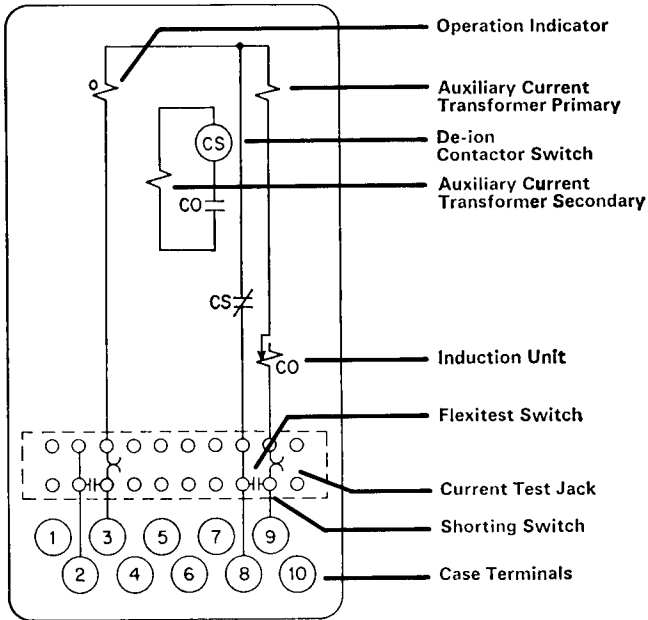

Fig. 10
As shown in figures 10 and 11, closing of the CO unit contacts energizes a De-ion[®] contactor switch (CS) whose contacts shunt the ac trip current through the breaker trip coil.
Burden of the auxiliary current transformer (figures 10 and 11) with 4 amperes applied is 4.6 volt-amperes with the CO contacts closed, and 5.7 volt-amperes with the contacts open.
Used in circuit opening type CO relays as shown schematically in figures 10 and 11. This scheme is applied where ac trip coils are used on the circuit breakers, energized by the line current transformers. When the CS coils energized by a small transformer located within the relay case, its normally closed contacts open to remove the by-pass around the breaker trip coil, thus tripping the breaker.